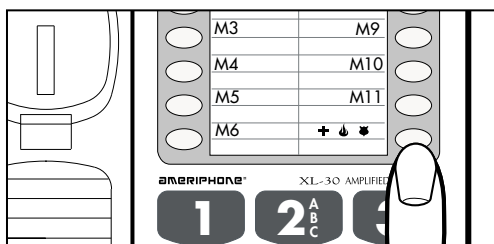

Figure 16 - Memory Buttons
You can automatically dial twelve programmed telephone numbers using the memory buttons shown in Figure 16. Each button can be programmed (or reprogrammed using the same procedure) for a phone number up to 15 digits long.
4. Press a memory button (Figure 16) to store this number on that button.